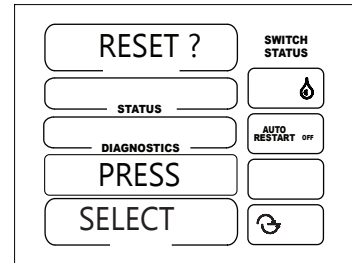

Figure 51-1
3. While turning the control panel disconnect ON press and hold  and  simultaneously until the Reset screen is displayed. See figure 51-1.